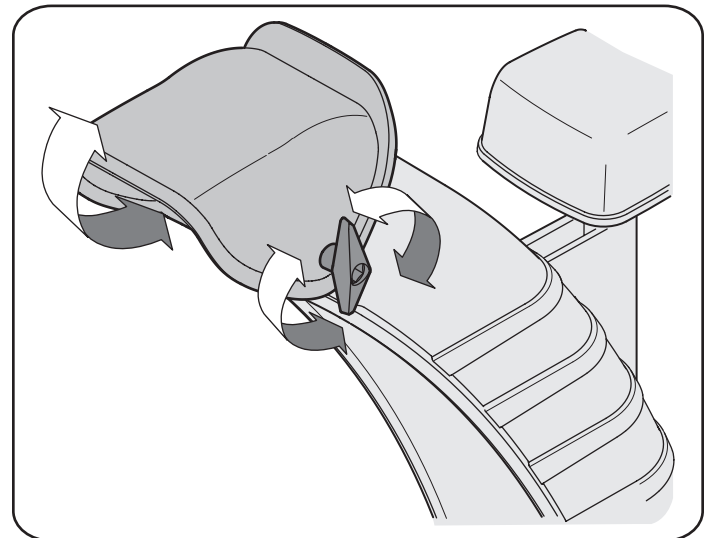

Figure 11
- Pivot the chute upward or downward before retightening the wing knob. See Figure 11.